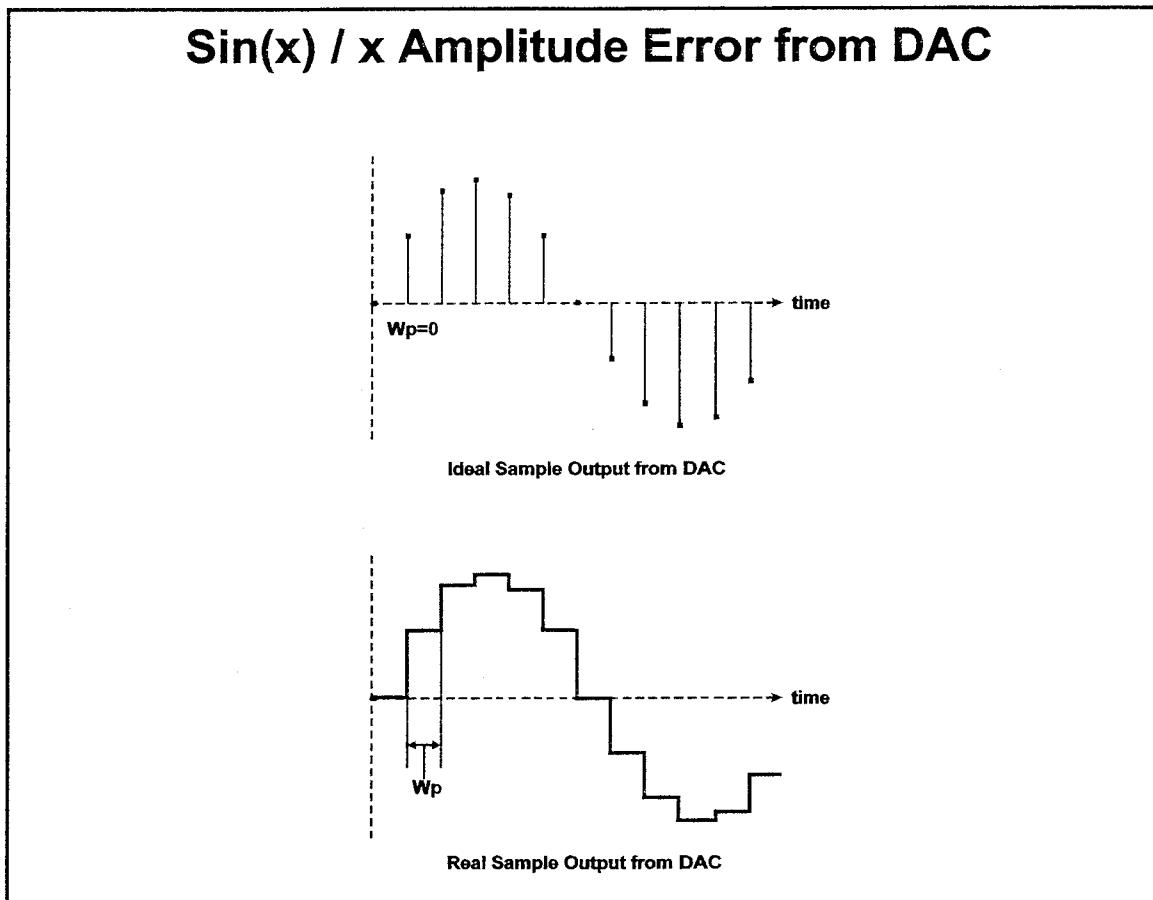
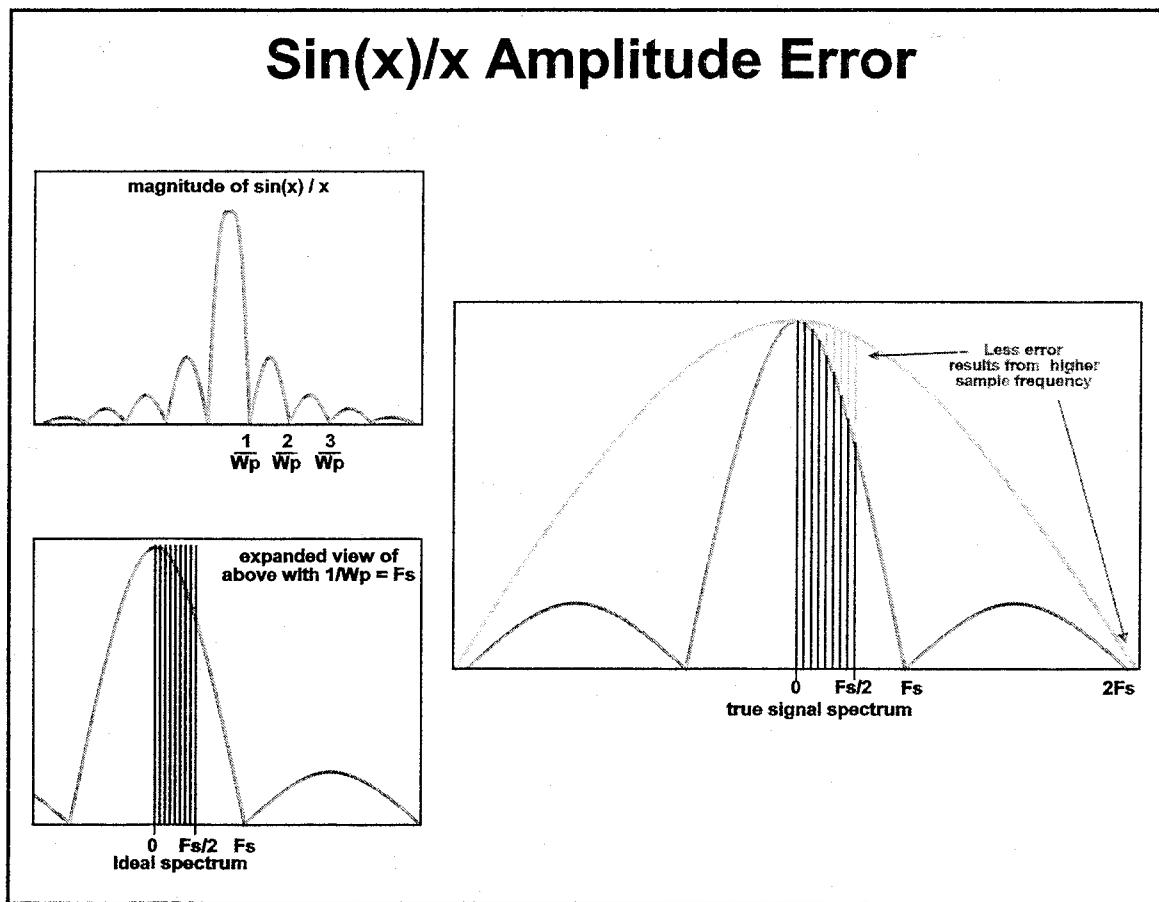

Figure 6.6
Figure 6.7
Sampling theory presumes that a given sample in time represents a finite amplitude with zero time width. In general, the output from a DAC or WG remains constant between output value changes. This creates a waveform which can be modeled as a series of rectangular pulses of varying amplitude as shown in Figure 6.6.
When the frequency conversion math is performed for this series of rectangles, the frequency spectrum of a sine wave is multiplied by the spectrum of a rectangle, which has a $\sin(x) / x$ characteristic. The magnitude spectrum of a rectangle is shown in Figure 6.7 in the top left diagram. The amplitude error versus frequency
Notice that the pulse width in Figure 6.6 is the same as the sample period $1/F_s$, causing the frequency characteristic of the $\sin(x)/x$ curve to be zero at integer multiples of F_s . In a test situation, all our frequencies of interest will be between 0Hz (DC) and $F_s/2$. The error is an amplitude multiplication factor which is related to the ratio of signal and sample frequencies. The higher the ratio F_s / F_t the less amplitude error as seen in the large diagram in Figure 6.7. The multiplication factor is given by the $\sin(x) / x$ equation as related to F_s and F_t :
In Figure 6.7, it can be seen that for a given F_t , a higher F_s yields less amplitude error. The effect is more clear in the time domain—when the samples are closer together, the stepped DAC output more closely approximates a true sinusoid. As F_s goes to infinity, the frequency domain $\sin(x) / x$ curve in Figure 6.6 goes to horizontal and amplitude error goes to zero.